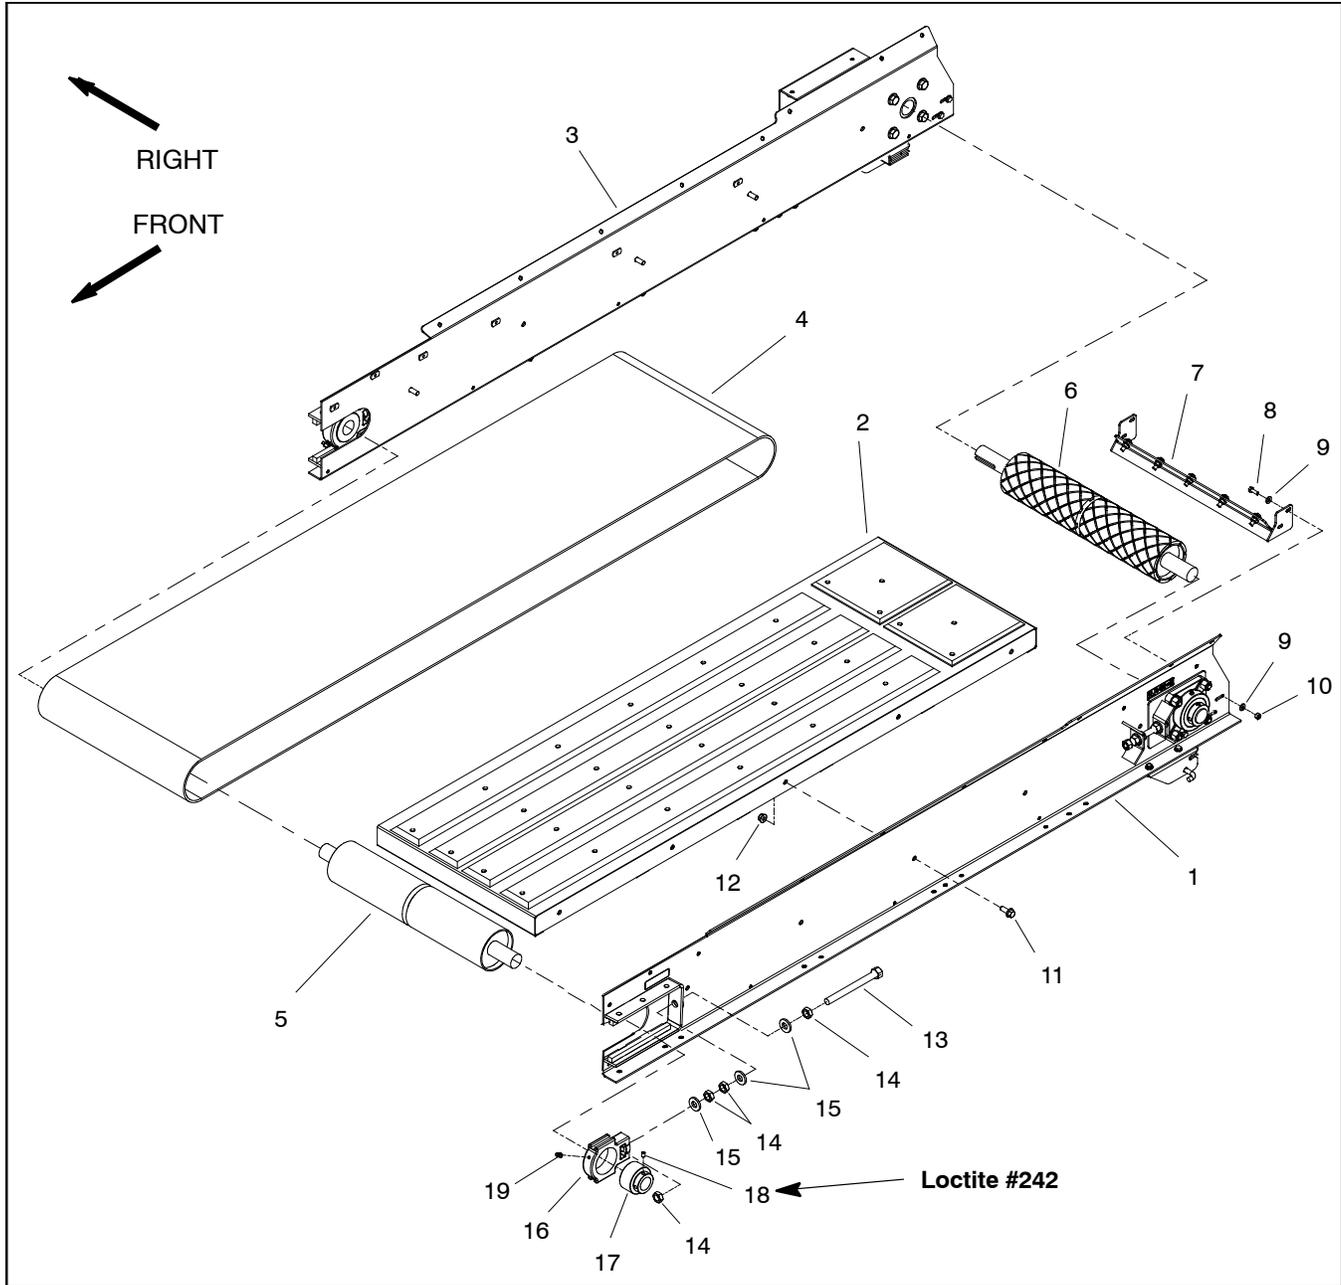

Figure 13
Disassembly (Fig. 13)
4. Remove take up bearings from frame using Figure 13 as a guide.
Assembly (Fig. 13)
2. Install take up bearing to frame using Figure 13 as a guide. Do not tighten locking or adjusting jam nuts until conveyor belt is properly adjusted.
5. Grease all four (4) bearings after assembly is complete.